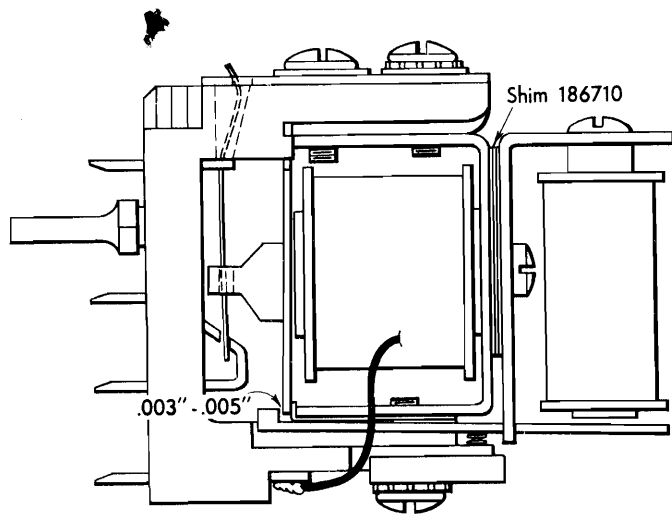

Figure 26. Adjustment 7
7. Figure 26. With the relay coil energized, there should be .003" to .005" latching clearance between the relay armature and the latch at the latching point. To change this adjustment, add or remove shims 186710 between the relay magnet yoke and the latch magnet yoke as required.